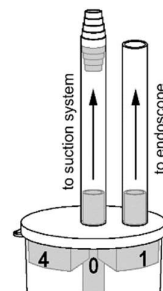

Fig. 1
1. Connect the tube situated in the center of the lid to the port of the suction system (Fig. 1).
2. Connect the outer tube with the endoscope (Fig. 1).